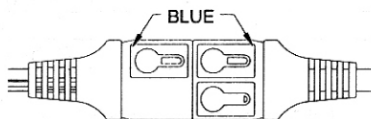

FIGURE 2
1. Connect the POWER CORD LINK with the BLUE thermometer symbols aligned, as shown in figure 2.